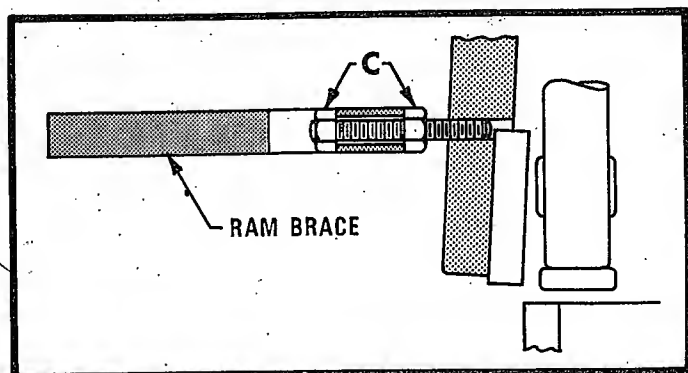

FIGURE 68
8. Jog or move the ram upwards, checking knife clearance as knives cross at each holddown unit. The knife clearance must decrease as you approach the center of ram. Clearance at center of ram should be .002" smaller than clearance set at each end. If clearance varies, realign ram by means of adjusting nuts "C" on Figure 68.
9. The rigid ram brace controls the alignment of the ram by means of studs and nuts. By loosening one adjusting nut "C"; Figure 68, and tightening the other you can move the ram the desired amount. One man should check the clearance while another stands on the table to adjust the ram. The long handle wrench, shipped with the machine, is to be used to make this adjustment. Refer to Figures 69 and 70.